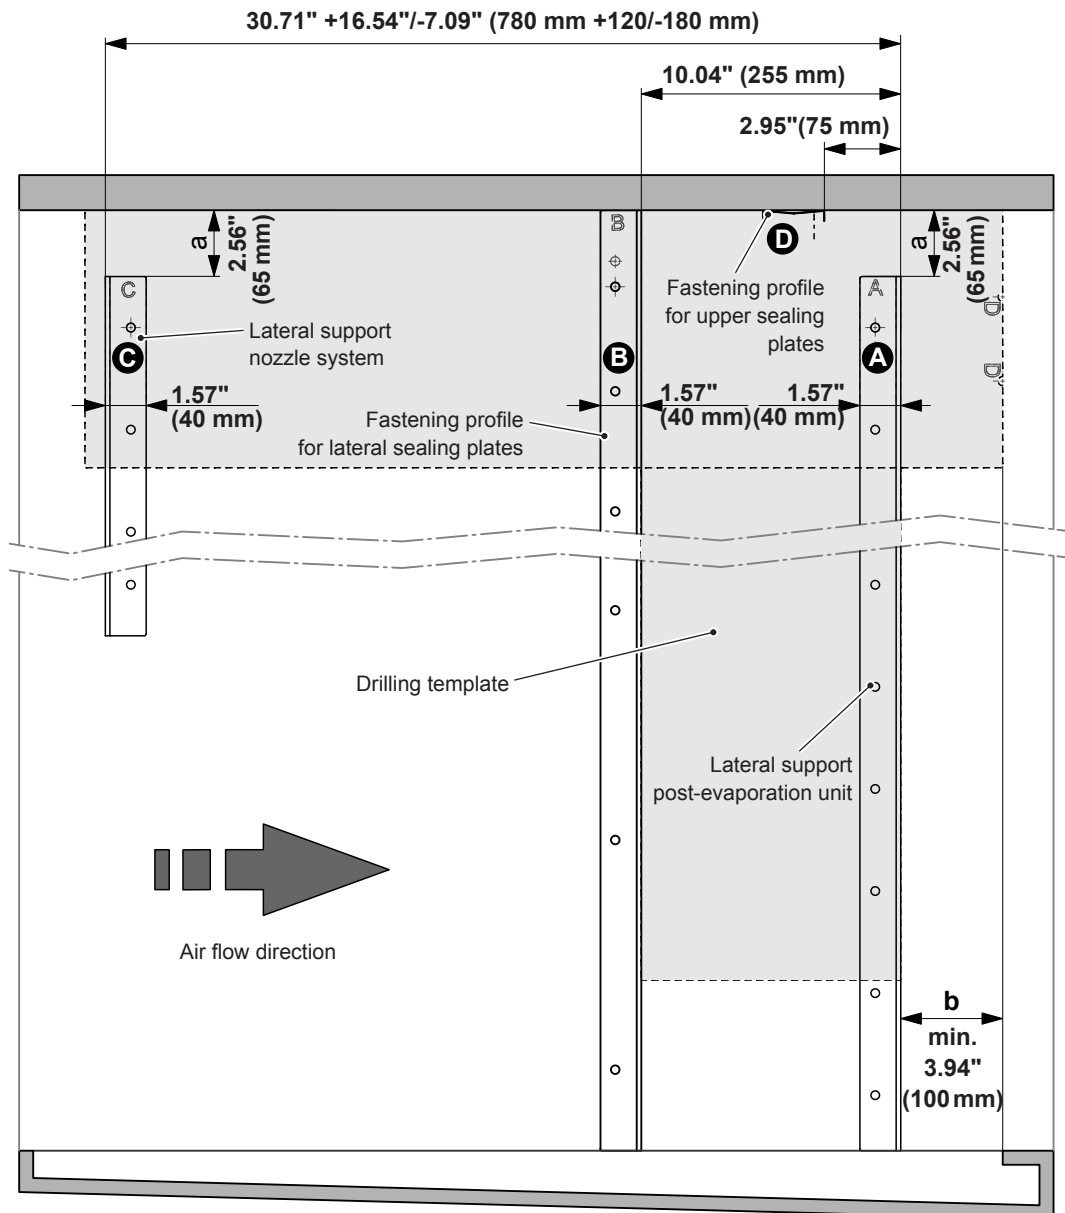
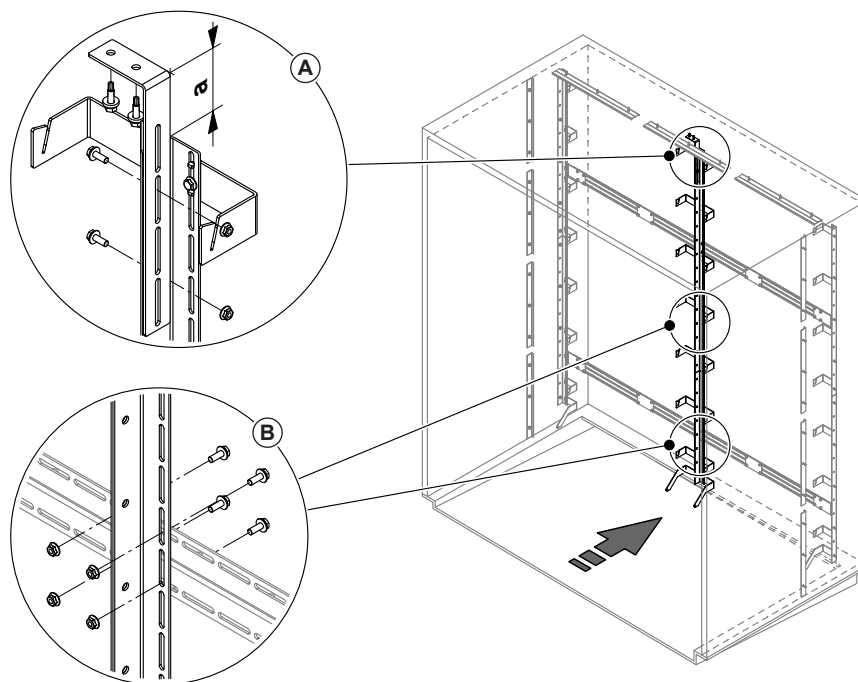

Fig. 5: Positioning of the fastening elements (side view)
Fig. 12: Mounting the vertical support(s)
- If necessary, loosen the two screw connections fixing the angle bracket(s) to the vertical support(s) and position the angle bracket(s) in such a manner that the distance between the leg of the angle bracket and the upper edge of the vertical support has the same distance as the upper edge of the two lateral supports have to the duct ceiling (see Fig. 5 and detail A in Fig. 12). Fasten the two screw connections again.
- Fix angle bracket of the vertical support(s) with two self-tapping screws 6.3 x 25 mm to the duct ceiling (see detail top left in fig. 12).
8. Mounting the diagonal stiffeners (see also frame construction overviews in Fig. 5):